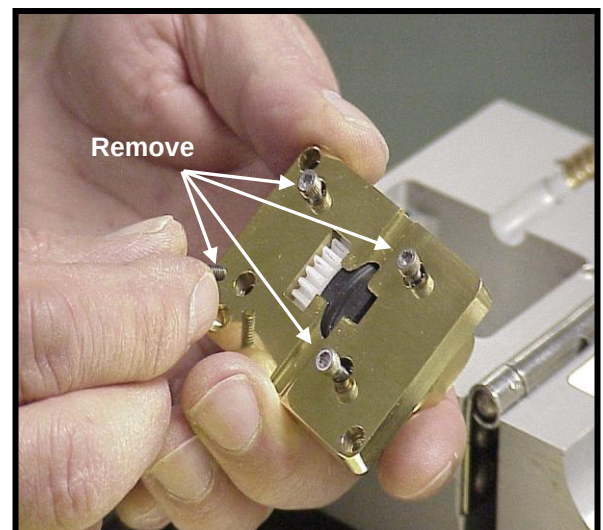

Figure 39
14.3.2.3 Use small 3/32" Allen wrench to remove four (4) short machine screws that secure Bearing Hangers. **See Fig. 39**